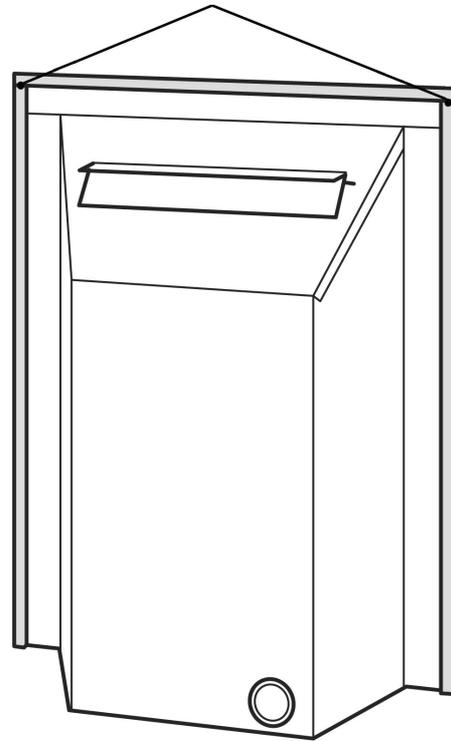

Figure 10. Fitting the foam seal
5. There is a length of self adhesive foam seal supplied with the fire. This will need to be fitted to the outer rear edges of the side and top flanges of the hotbox. Cut the foam seal to the required length. Be careful not to stretch the seal when measuring. Remove the protective backing from the foam seal and fit this to the rear of the top flange (See figure 10).